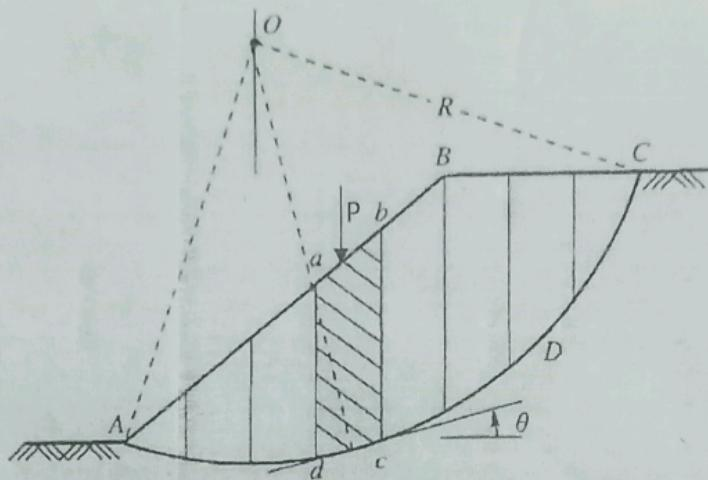

Figure 2.
3. A. Show various forces acting on the slice abcd (see figure 2) as per Bishop method. The slope is fully submerged condition. (5)